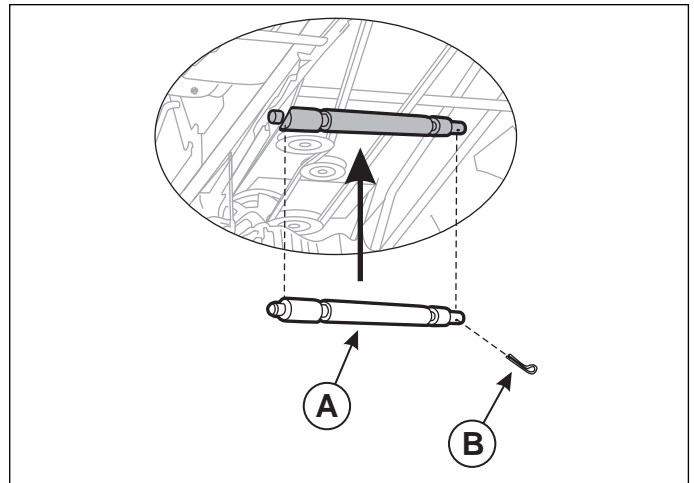

Figure 7. Hitch Support Shaft
4. On underside of tractor frame, insert hitch support shaft (A, Figure 7) as shown and secure, with the cotter pin (B) on inside of frame. **IMPORTANT** – the cotter pin must be located along the inside edge of the tractor frame.